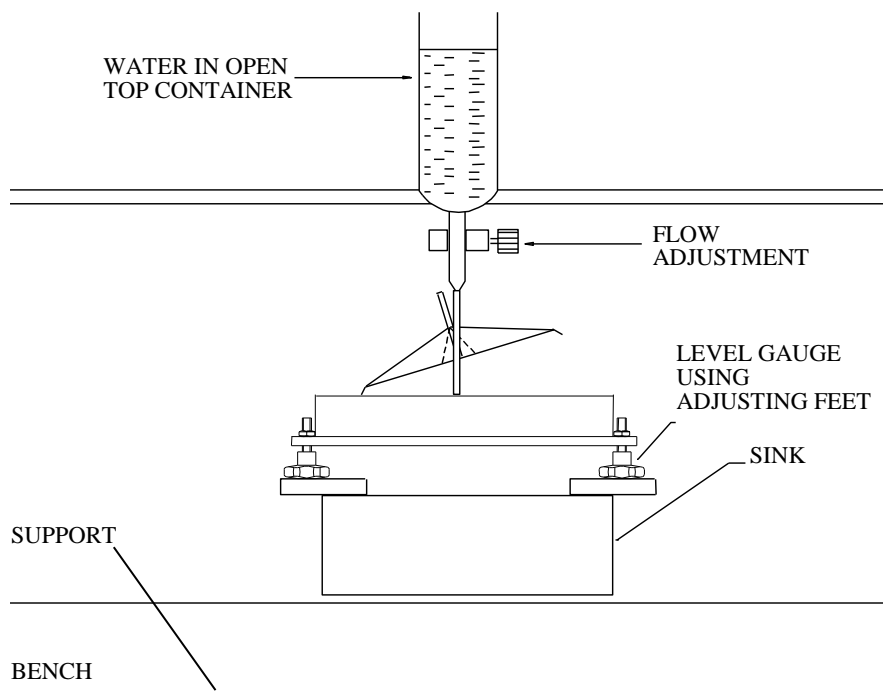
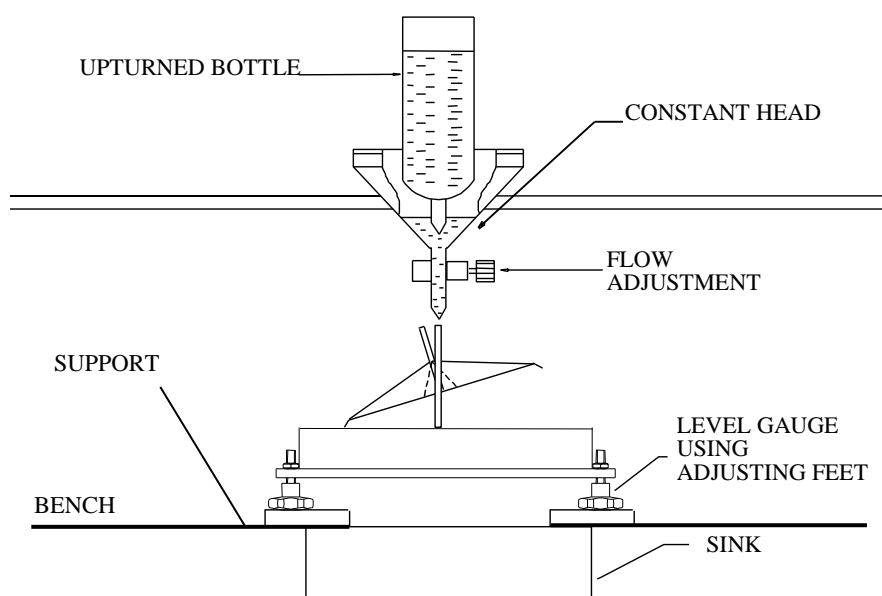

Figure 8a. Dynamic Calibration using a Measured Quantity of Water
Figure 8b. Dynamic Calibration using the Constant Head Method
1. Set up the gauge as illustrated in Figure 8a or Figure 8b, carefully levelled and connected to the datalogger.